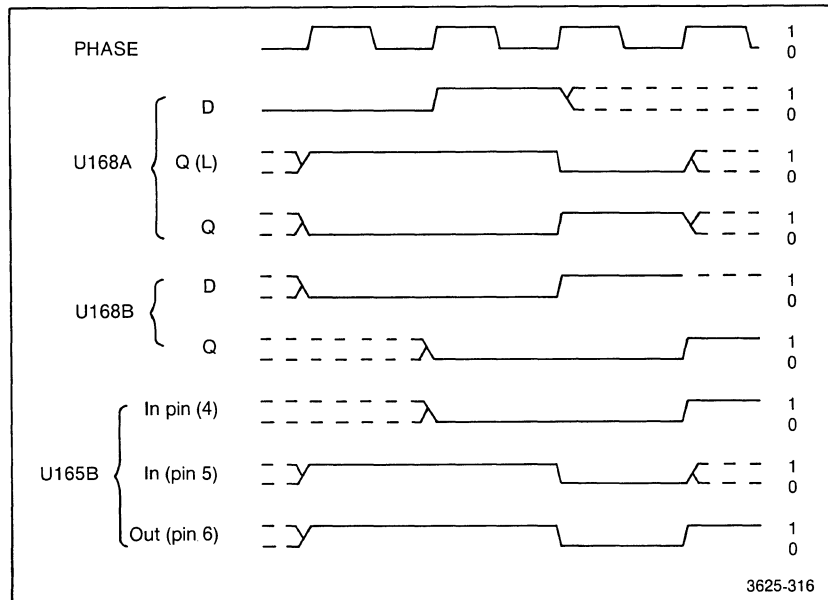

Figure 4-20. One-cycle wait circuit timing diagram.
These gates regulate the insertion of wait states in microprocessor routines to keep pace with slower speed peripherals. The wait control works in two ways. Any WAIT(L) signal from the Interconnect board activates wait states for as long as the signal is active. All other wait-producing signals go through registers U168A and B. These registers have the effect of producing a one-clock-cycle wait state, regardless of the duration of the wait-producing signals. See Figure 4-20 for a timing diagram of the one cycle wait producing circuit.